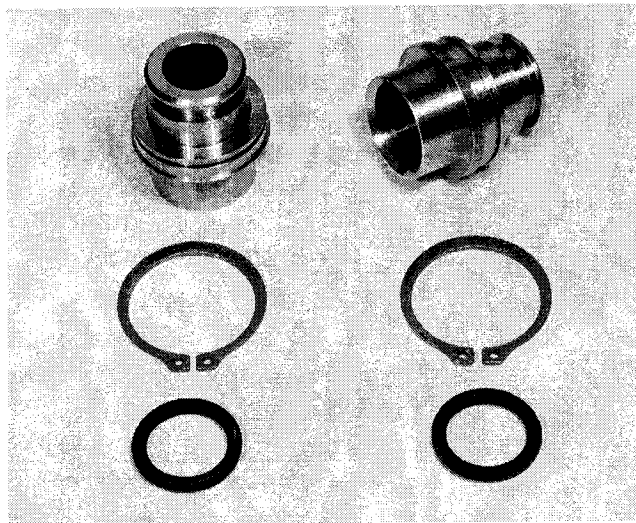

Fig. 3
An alternative shut-off valve system can be installed with valves obtained from a local hardware or plumbing supply store. You will also need a sweat adapter kit (Fig. 3) to adapt the control valve to the plumbing. These are available in two sizes:
- Remove the sweat adapters and O-rings from the Sweat Adapter Kit (Fig. 3). Set the snap-rings aside for later use.